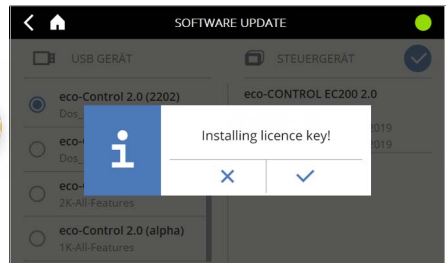

Fig. 91
- ▶ Another box appears prompting you to update (Fig. 91).